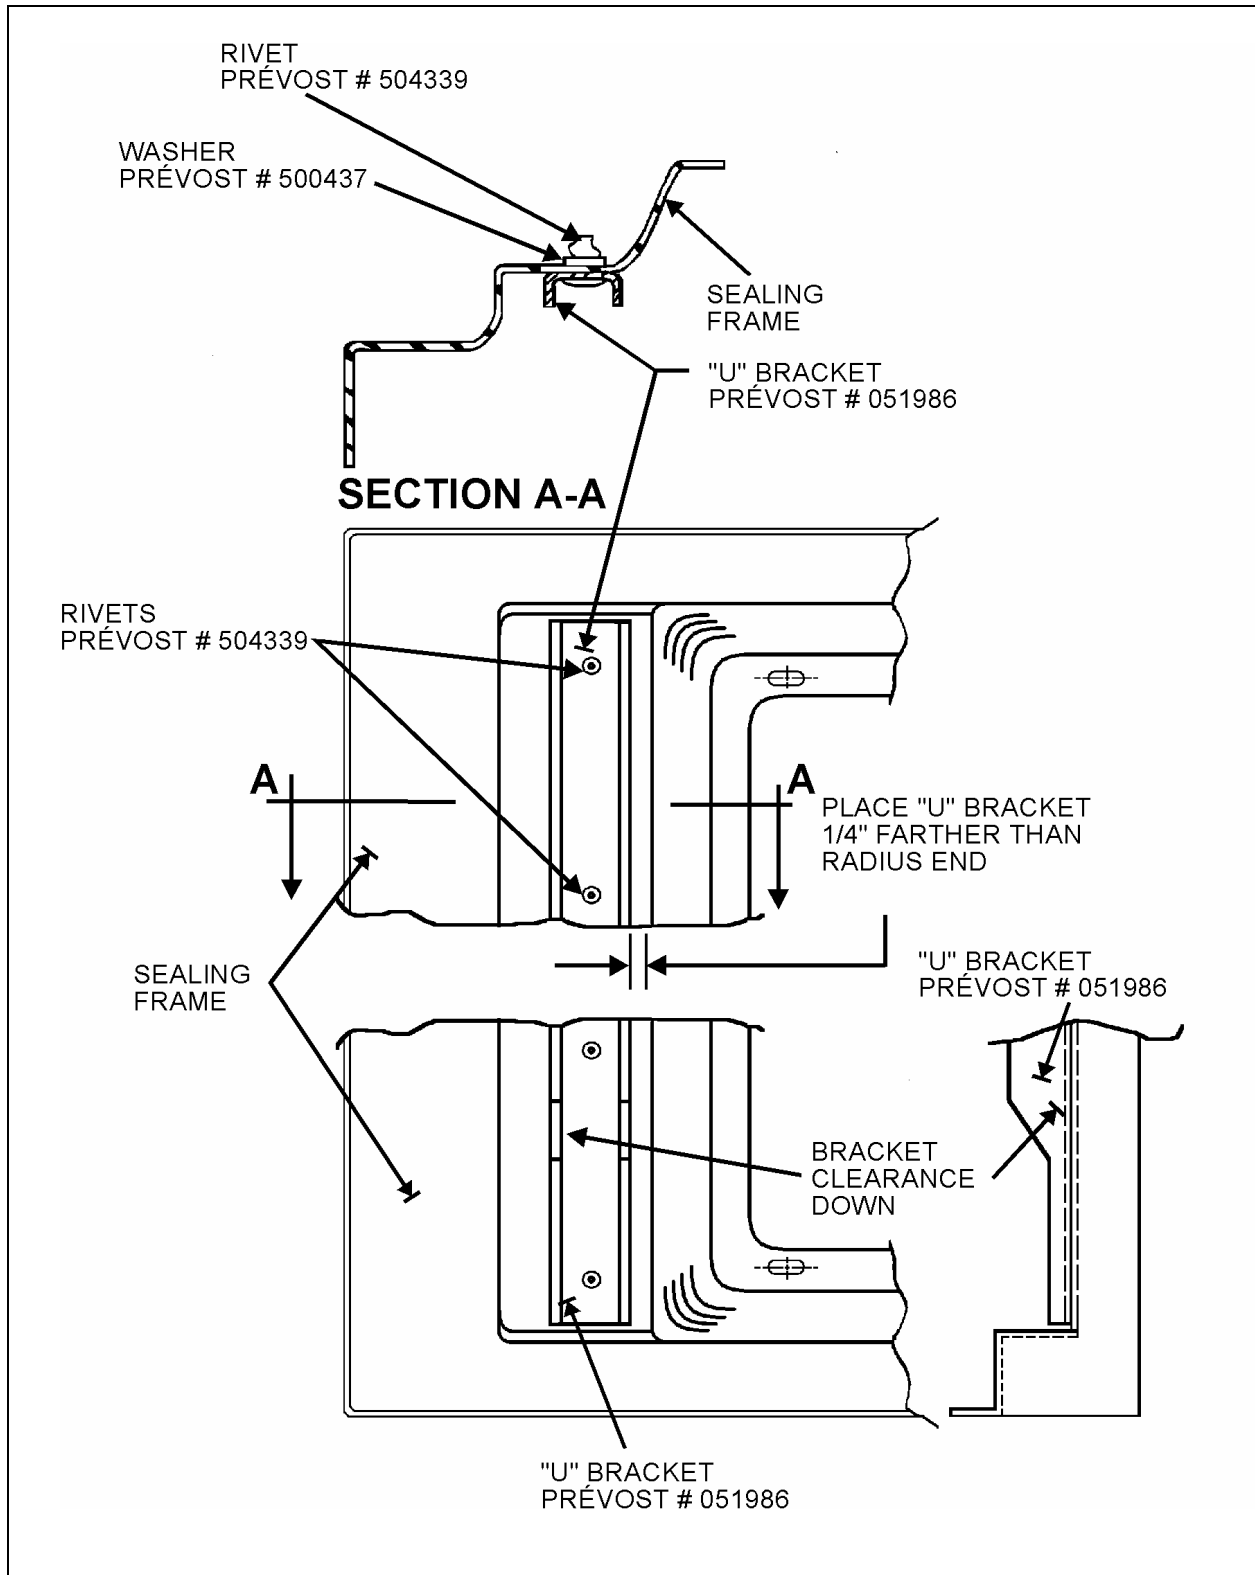

FIGURE 2: RADIATOR COMPARTMENT
4. Place "U" bracket on radiator sealing frame. Horizontally, the bracket should be 1/4" farther than the radius end. (see figure 2). Vertically, center "U" bracket on sealing frame.
5. Drill sealing frame with a 1/8" drill in the "U" bracket holes (7).
6. For each hole (7), place pop-up rivet and washer (see figure 2, Section A-A).